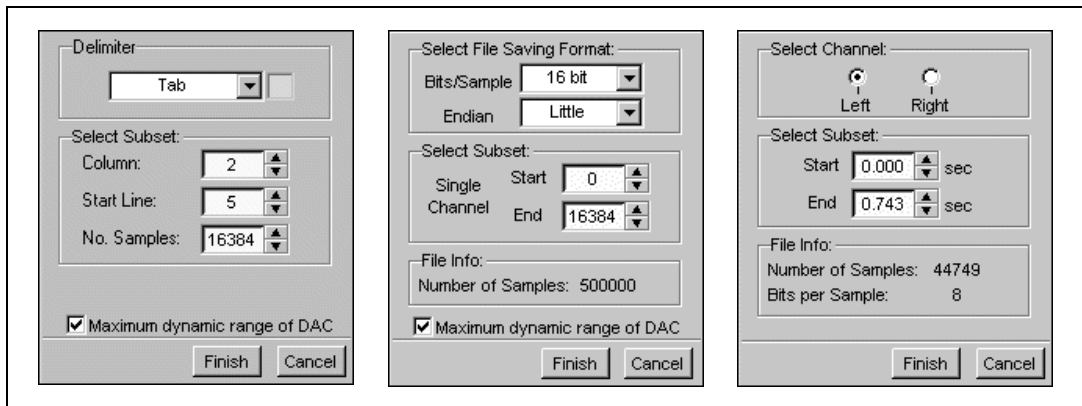

Figure 1-9. Waveform Import Dialogs
2. Choose the file which contains the waveform pattern to import. The supported file formats are sound (.wav), text (.txt), and binary files (.bin). Depending on the file you choose, one of the screens in Figure 1-9 is displayed.